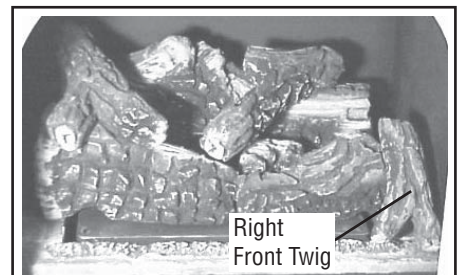

Figure 16
8. Install the front right twig onto the corresponding pin on the right front log. Align the twig with the indentation on the front right log as shown in figure 16.